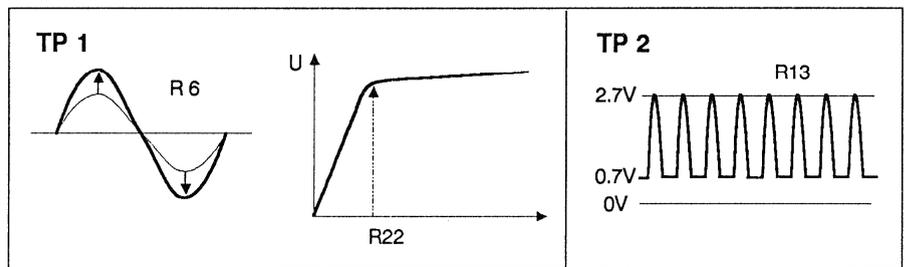
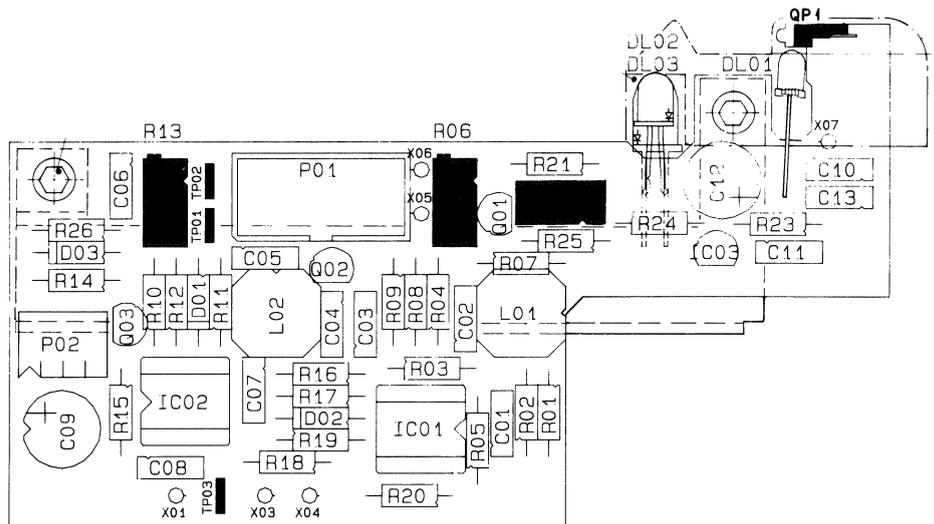

Fig. 8 Oscilloscope pictures for TP1 and TP2
Fig. 9 Opto sensor board 1.820.793.82
- Connect the oscilloscope to test point TP1 and to ground (TP3), Fig. 9.
- With a leader tape of low transparency across the optosensor adjust R6 for max. signal on testpoint TP1, Fig. 8 und Fig. 9.
- Adjust R13 for required sensitivity, using TP 2, (see Fig. 8) and Fig. 9.